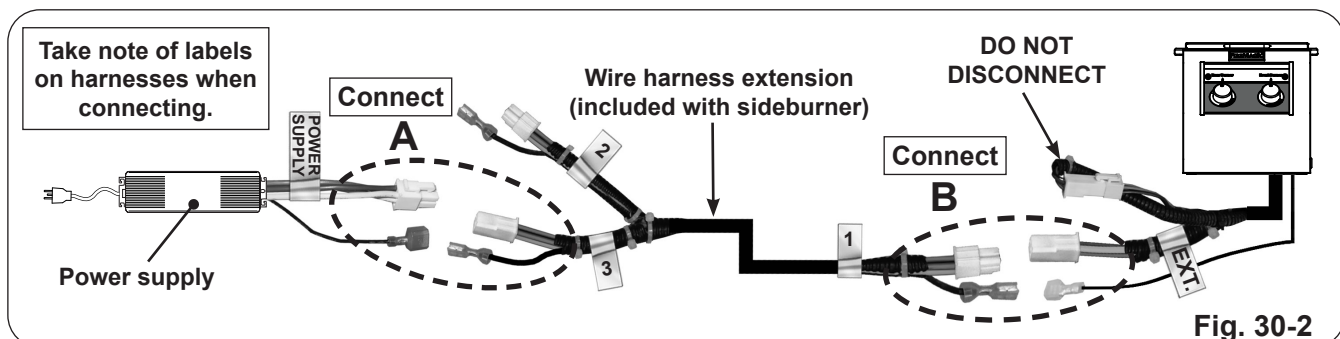

Fig. 30-2
1. Locate the "Y" end of the wire harness extension that is included with the sideburner and connect the compatible end to the power supply connectors (see Fig. 30-2, A).
2. Connect the opposite end of the wire harness extension to the sideburner connectors (see Fig. 30-2, B).